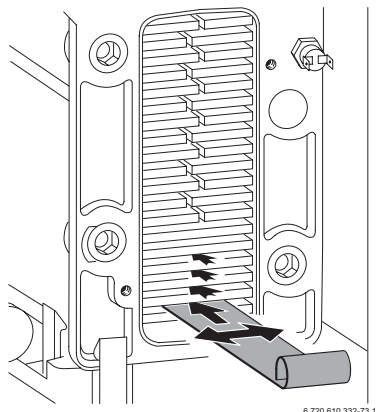

Fig. 38
- ▶ Loosen any deposits in the heat exchanger from top to bottom using the cleaning blade. Refer to fig. 38.